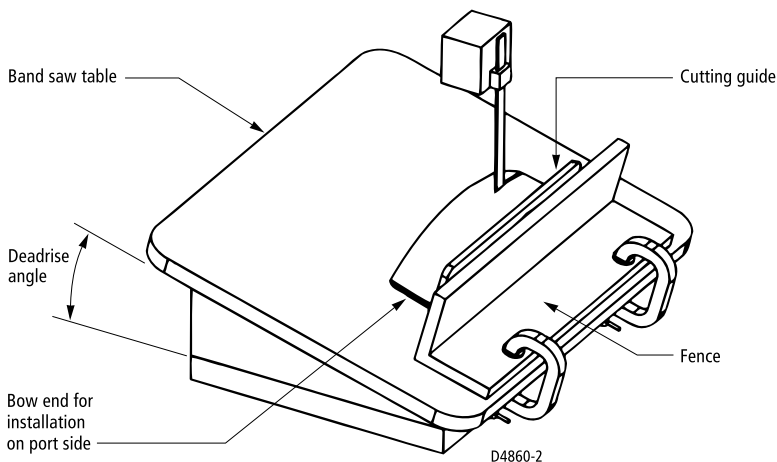

Figure 2-5: Cutting the Fairing
2. Tilt the band saw table to the measured angle and secure the cutting fence (see *Figure 2-5*).